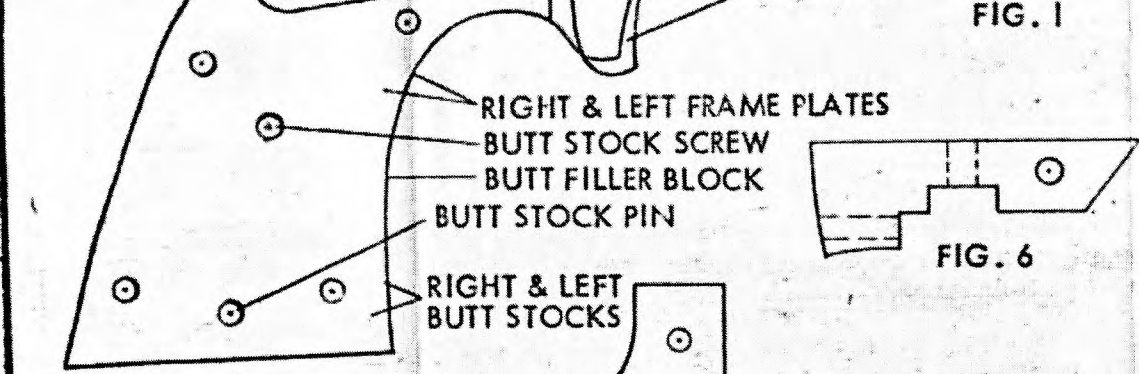

FIG. 1
STEP 1. BARREL—Fig. 1: The barrel can be any diameter and length. The one used on the model pistol is five-eighths of an inch in diameter at the breech end and a little smaller at the muzzle. It is four inches long, but you can make yours longer if you like. File both ends of the barrel square and finish with fine emery cloth so that you will leave no burr sticking out in the bore.
STEP 2. BARREL LUG—Fig. 1 & 6: The barrel lug is sawed and filed from one-quarter inch steel. Use cold rolled flat bar stock, the bumper brace off a wrecked auto, or one-quarter inch material from old farm implements. When you have it filed out, put it in the vise with the barrel edge up, and with a small round or half round file, hollow out the top edge so that the barrel will fit on it. Drill no holes now. Get the groove true so the lug and the barrel point in the same direction when they are fit together.
STEP 3. BARREL LUG SCREW—Fig. 1: This screw can be one-eighth inch or five thirty-seconds of an inch in diameter with a round head with a screw driver slot and square nut. Drill the hole for the lug screw through the barrel lug and mark on the barrel where it hits. File the bevel on two sides of the nut and file the dovetail notch in the barrel, drive the nut in the barrel notch and screw the barrel lug to the barrel. If the back of the barrel lug does not come flush with the breech of the barrel, file them until they
STEP 4. FRAME PLATES—Fig. 1 & 3: These are made of sixteen gauge sheet iron—not galvanized. Sixteen gauge iron is about one-sixteenth of an inch thick, and should be found in a welding, tin, or auto body shop. You can use a little thicker material than sixteen gauge but not thinner. Hold two pieces in the vise together and shape them at the same time. If your barrel is larger than five-eighths of an inch, the part of the frame plates that go up behind the barrel must be high enough to go to the top of the barrel. Leave plenty of metal. It can be filed off later.
STEP 7. BUTT FILLER BLOCK—Fig. 1 & 4: This can be made of one-quarter inch steel, cast iron, or brass, but the brass and cast iron will not blue. When you have the filler block roughed out, excepting the notch for the hammer spring, lay the right frame plate on it and drill the stock pin hole, the stock screw hole, and the hammer spring pin hole in the filler block. Next drill the hammer spring pin hole out of the filler block with a five-sixteenths or three-eighths inch drill and saw out the notch for the hammer spring.
STEP 8. RIVETING THE FRAME—Fig. 1: Lay the right and left frame plates together and drill the stock screw hole and the stock pin hole through the left frame plate, then put the filler block between the frame plates and put a pin in the stock screw hole and the stock pin hole to keep the three pieces lined up while you drill the five holes for the rivets that hold the frame plates and filler block together. Cut five rivets and rivet the three pieces together. Keep the pieces tight together while riveting. Now take the pins out of the stock screw hole and the stock pin hole, and file the edges of the three pieces so they are flush with each other around the grip.
STEP 9. BREECH BLOCK—Fig. 1 & 9: This is cut from the same one-quarter inch steel as the barrel lug. It is one-half inch wide. Let the sour that makes the rear sight stick up higher than necessary. It can be filed down when sighting in your pistol. Drill the lower rivet hole and the trigger spring hole, but not the firing pin hole or the upper rivet hole. The trigger spring can be any small spiral spring, such as is found in carburetors, some mechanical pencils, and various other places.
STEP 10. BARREL FITTING—Fig. 1: With a small flat file, bevel the inside edges of the frame plates where the bottom side of the barrel touches, so that when the barrel is in place it sets down neatly between the top of the frame plates. Have the barrel lug on the barrel while doing this. Now with the barrel held tightly in place drill the hinge pin hole on through the barrel lug and the left frame plate. All holes must be drilled straight through—not on an angle.
STEP 11. CHAMBERING THE BARREL—Fig. 1: Use a number two drill to drill out the breech end of the bore of the barrel, the length of a .22 short cartridge. Next use a number one drill, and drill in the same depth. Now with a nine thirty-seconds drill let the head
STEP 12. FIRING PIN—Fig. 1 & 10: Grease the barrel side of the breech block very lightly and put it in place, then put the barrel in place. Now put a pinch of flour or powder down the barrel, then pour it out, and with the gun in that position take the hinge pin out and pull the barrel straight away from the breech block. If you were careful there will be a round white spot on the breech block where the cartridge head will be when the gun is loaded. Drill the firing pin hole straight through the breech block at the bottom of the white spot. Now with a pin that is to be the firing pin in place, drill the firing pin retaining pin hole. The drill will force the firing pin out of its hole, so it must be held in during the drilling. After the hole is drilled take the firing pin out and file the notch made by the drill wide enough to let the firing pin move about one-sixteenth of an inch. Get some fired .22 shells and study the mark made by the firing pin before you shape yours. A good size is a rectangle, one-sixteenth of an inch wide and about three thirty-seconds of an inch high. It should hit just inside the edge of the cartridge head, but not on the edge as this takes too strong a main spring. If the firing pin catches on the edge of the chamber when you attempt to open the action, round off the bottom of the chamber edge with a very small file.
STEP 13. ACTION LOCK SCREW—Fig. 1: This screw can be made of any small machine screw about one-eighth inch in diameter or a little larger. It can be shorter than the one shown if you like. Drill the hole in the barrel lug and just start it in the breech block. Mark the spot in the breech block with the gun assembled. If you have a tap to cut threads in this hole for the locking screw, fine, but if you do not, hacksaw a square notch in the bottom of the barrel lug and fit a nut, that the locking screw fits, in this notch. Make this a snug fit so the nut will not turn when you screw the locking screw through it.
STEP 14. BREECH BLOCK RIVETING—Fig. 1: When riveting the breech block the firing pin must be in place. File the top rounded to match the barrel and the bottom smooth with the frame plates. The top of the frame plates stop in line with the barrel. Do this riveting neatly as it will show in the finished gun. Do not have your rivets too long. They can be filed shorter even after you have started the riveting.
STEP 15. HAMMER—Fig. 1 & 8: The hammer is made of one-quarter inch iron, then filed a little thinner so it will work freely between the frame plates. The eye that the hammer spring hooks into is less than one-eighth inch thick and in the center of the hammer so the spring will center between the frame plates. Drill the hook hole before you file it to shape. It can be just large enough to take the spring hook. Do not file the notches for the trigger sear yet.
STEP 16. TRIGGER—Fig. 1 & 7: The trigger is filed from one-quarter inch iron then thinned for clearance. When you get it shaped out, lay it and the hammer on the outside of the gun and put a pin through the hole in each piece and in the proper hole in the frame plate. Now file the notches in the hammer and fit the trigger to it. If the hammer and trigger pins fit snug in the frame plate holes it is not necessary to rivet them.
STEP 17. HAMMER SPRING AND PIN—Fig. 1: The hammer spring is a short stout coil spring with a hook on each end. It must be small enough to fit loosely between the frame plates. If it is not stout you will have mis-fires. Garages and hardware stores are the best places to find them. The hammer spring pin is not riveted.
STEP 18. SIGHTS—Fig. 1 & 2: The front sight is filed from a block of iron one-quarter of an inch high, three-eighths of an inch wide and one-half inch long. File the notch in the barrel first, then shape out the sight to fit tightly in it. Drive it in and leave it there. The rear sight can be shaped but do not file the notch in it yet.